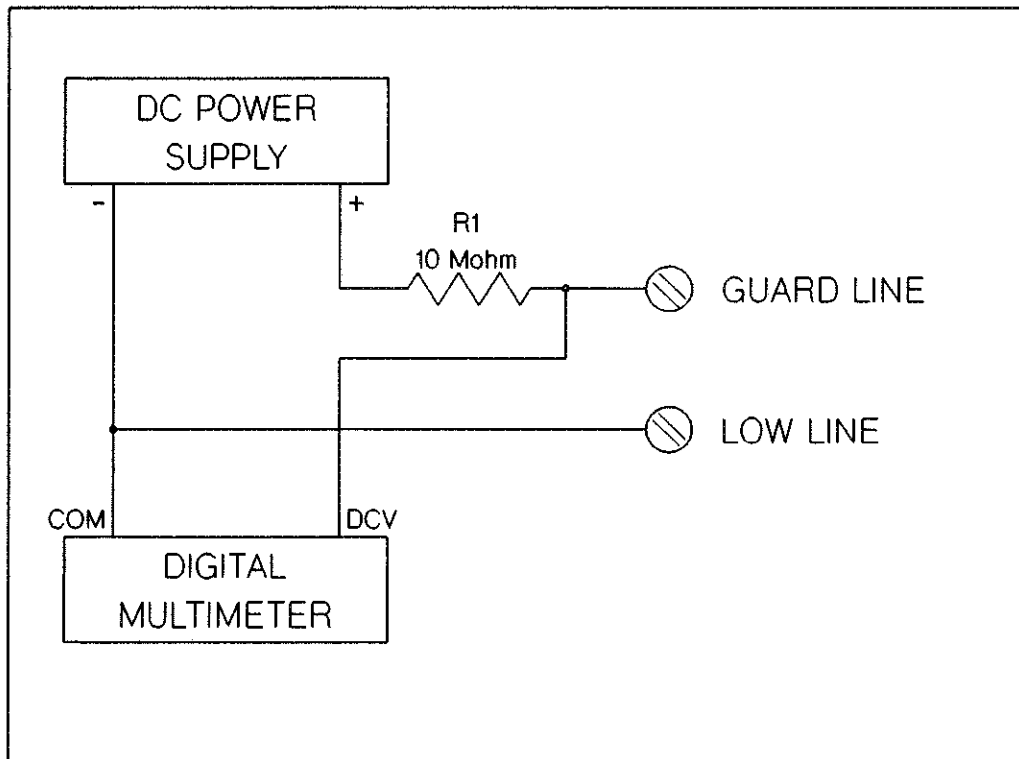

Figure 8-44 HP 44706A LOW to GUARD DC Isolation
20. Connect the test circuit between the LOW line and the GUARD lines of the test fixture as shown in Figure 8-44.